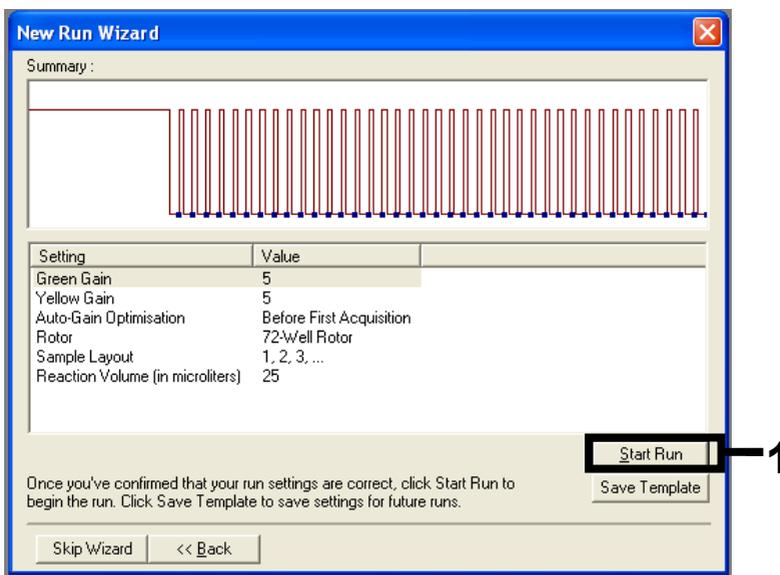

Figure 8. The “New Run Wizard” dialog box. 1 = “Start Run.”
14. Check the summary, and click “Start Run” to save the run file and start the run (Figure 8).